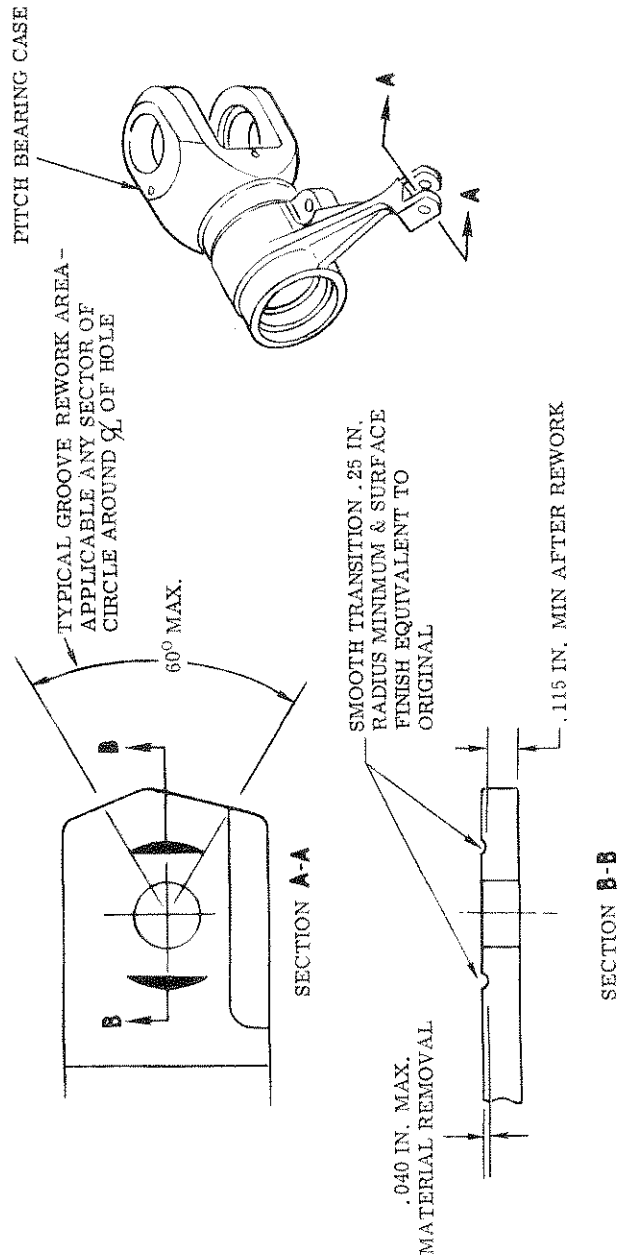

FIGURE 1. PITCH BEARING CASE-REWORK, PITCH LUGS
- ADD: f. Inspect lugs of pitch bearing case for evidence of wear resulting from interference with bearing at top of pitch control rod; rework grooves exceeding 0.003" depth on inner faces of lugs; touch up after rework with zinc chromate primer. (See Figure 1)
ADD: f. Inspect lugs of pitch bearing case for evidence of wear resulting from interference with bearing at top of pitch control rod; rework grooves exceeding 0.003" depth on inner faces of lugs; touch up after rework with zinc chromate primer. (See Figure 1)